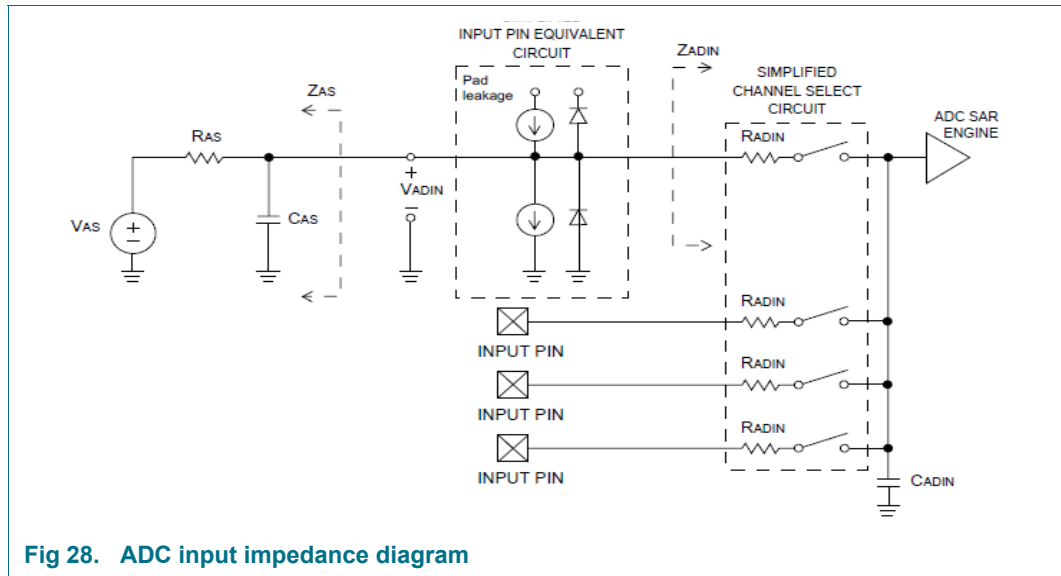

Fig 28. ADC input impedance diagram
- [3] CADIN represents the external capacitance on the analog input channel for sampling speeds of 1.0 Msamples/s. No parasitic capacitances included. See Figure 28
- [8] This resistance is external to the MCU. To achieve the best results, the analog source resistance must be kept as low possible. The results in this data sheet were derived from a system that had $< 15\ \Omega$ analog source resistance. See Figure 28.